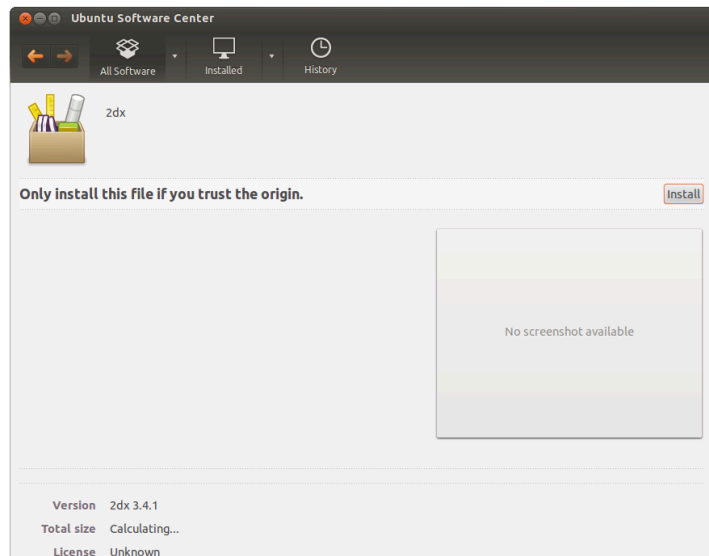

Figure 6: 2dx installation with Ubuntu's Software Center
2. After opening the package with the Ubuntu Software Center you get the window shown in Figure 6 where you can see a summary of our package.